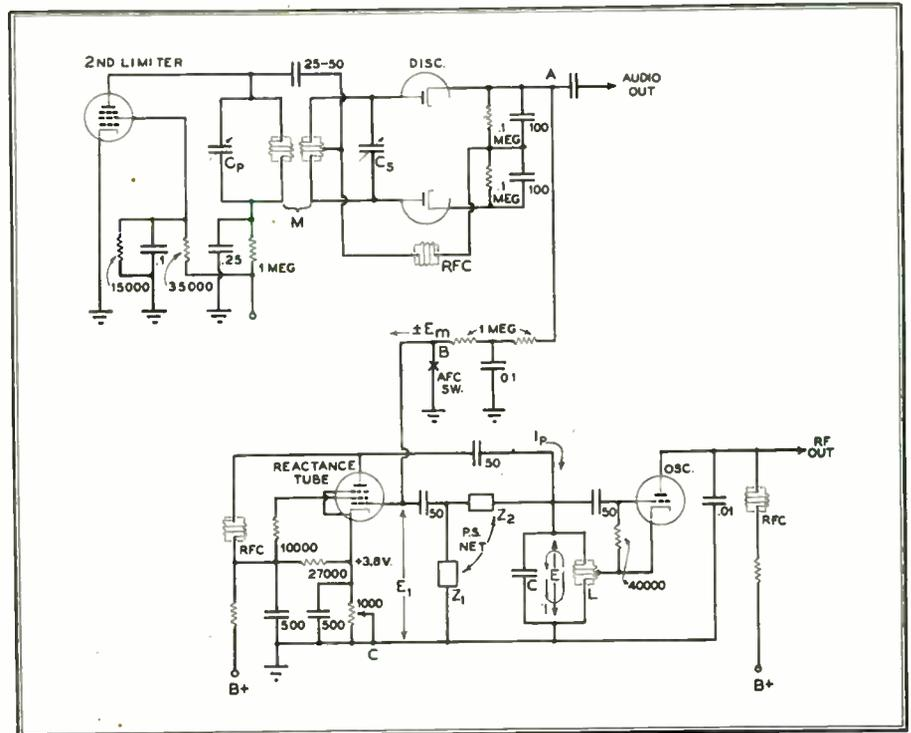

FIG. 79. COMPLETE AUTOMATIC FREQUENCY CONTROL SYSTEM FOR AN FM RECEIVER
**Complete Circuit** ★ The complete system shown in Fig. 79 is an application of